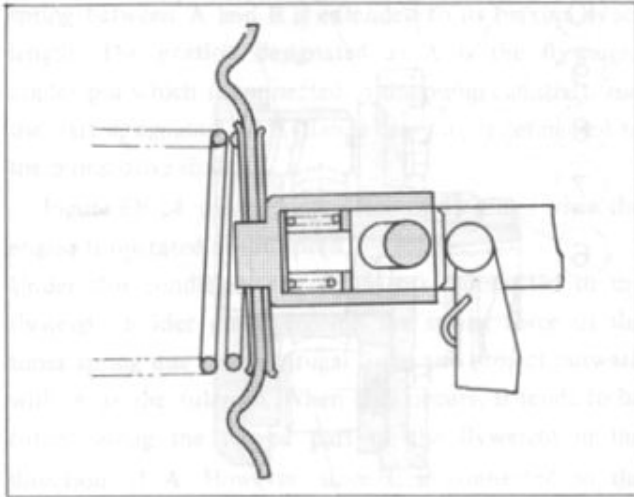

Fig. EF-19 When stroke is zero
1. Since vacuum (negative) pressure applied to the diaphragm housing at low engine speed is very low, the angleich spring is compressed by the governor spring. (See Figure EF-19.)